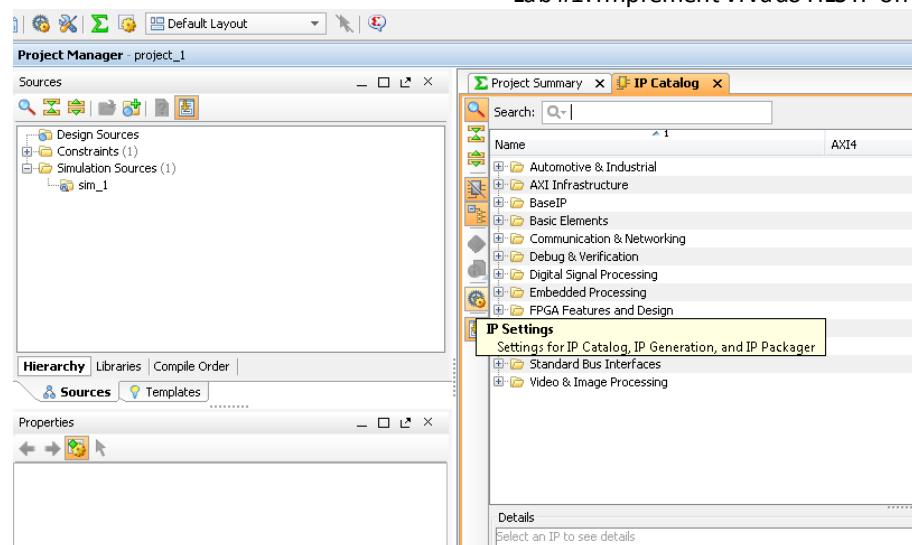

Figure 225 Open the IP Catalog Settings
2. Click on the IP Settings icon (Figure 225)